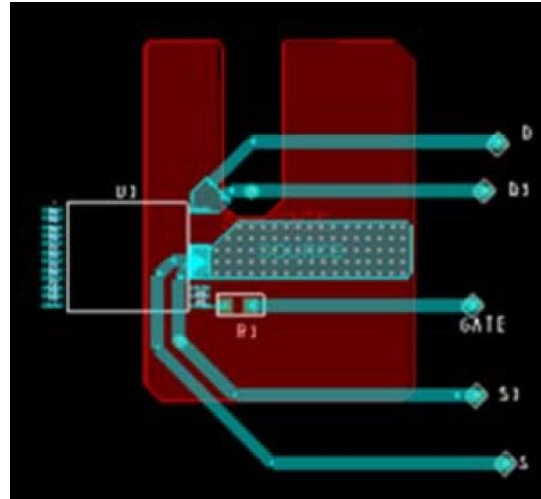

Figure 23. Thermal Resistance Test Conditions for PowiGaN Devices (INN3678C, INN3679C and INN3670C.)
Testing performed on custom thermal test PCB as shown in Figure 23. The test board consists of 2 layers of 2 oz. Cu with the InSOP package mounted to the top surface and connected to a bottom layer Cu heat sinking area of 550 mm2.
- Please see Figure 23.